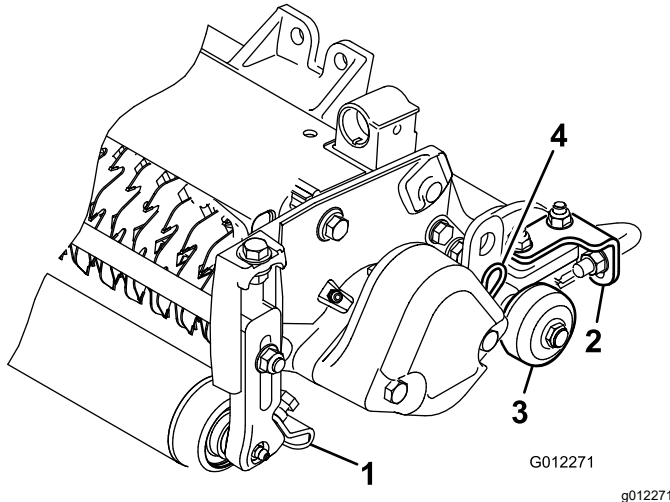

Figure 9
1. Loosen the flange nuts that secure the roller scrapers (Figure 9).
rollers (Figure 9) to protect the blades from hard surface contact.